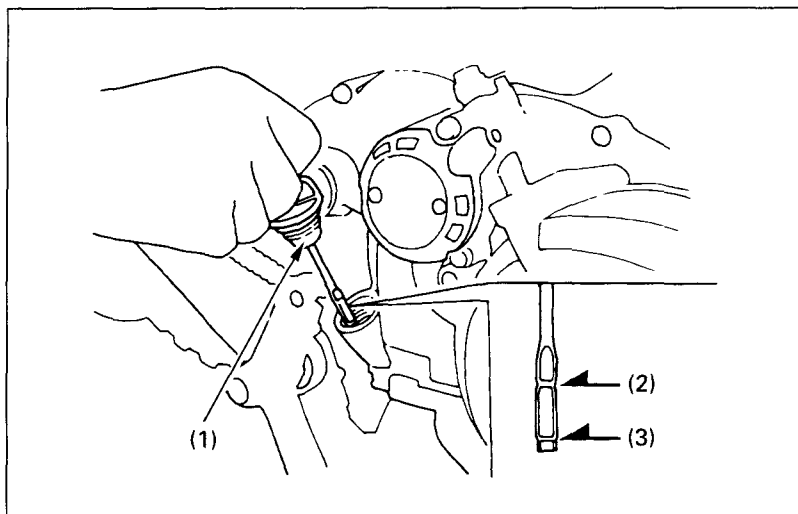

Fig. 2-19 (1) Oil filler cap/dipstick
The oil filler cap/dipstick (Fig. 2-19), on the right crankcase cover, is used to measure the oil level. The oil should be checked each day before operating the FOURTRAX and maintained between the upper level mark (2) and the lower level mark (3).